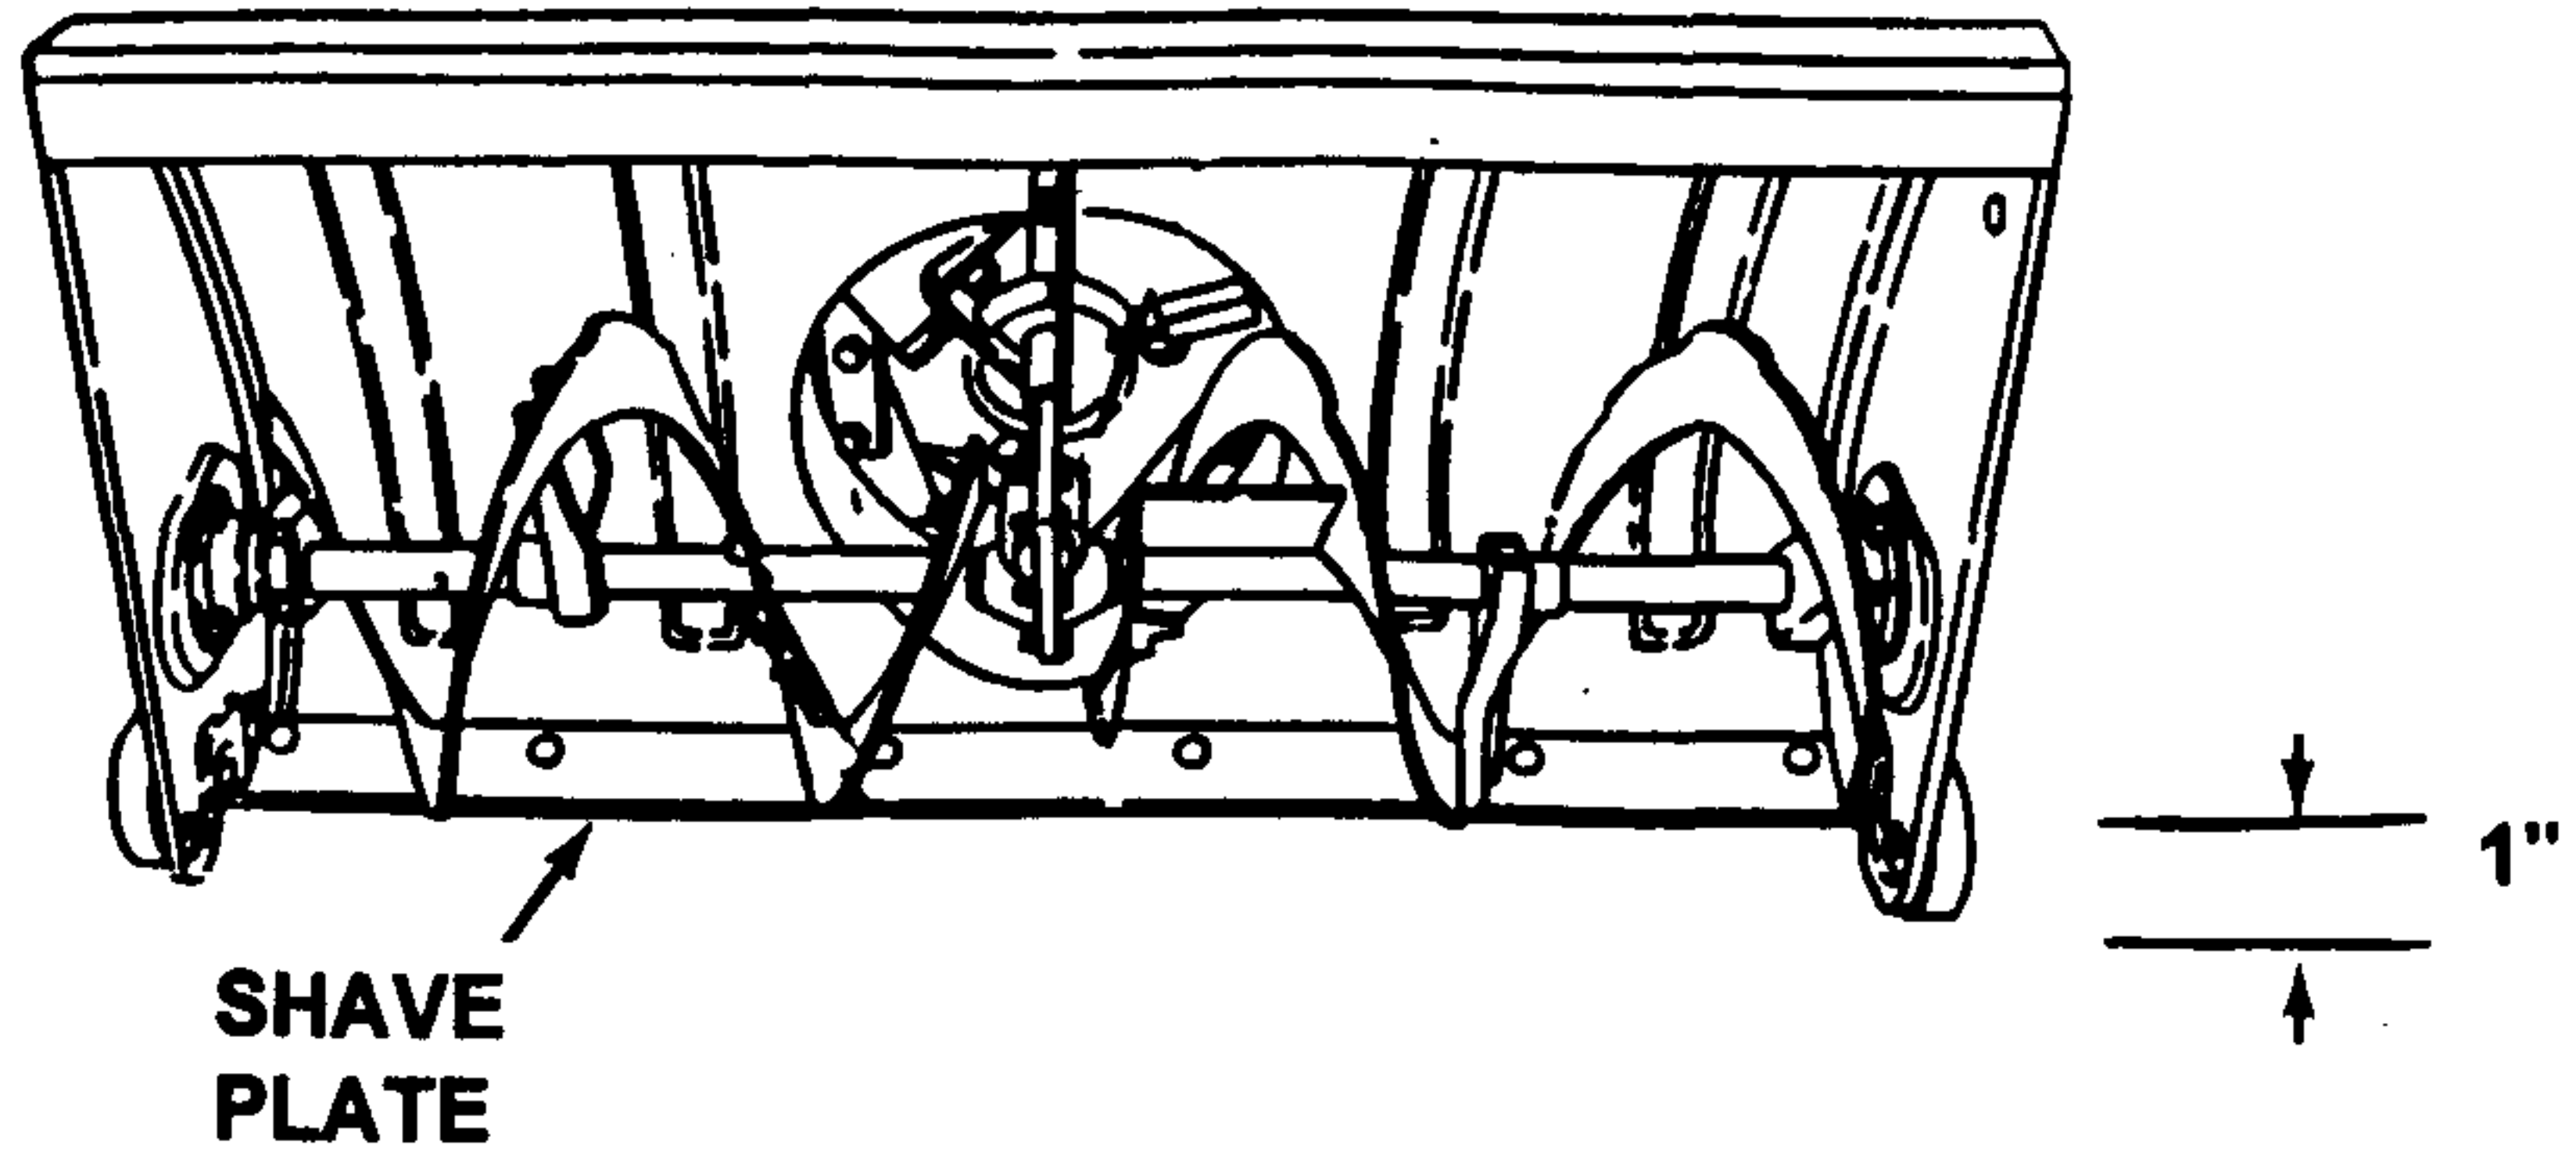

FIGURE 1
3. Lower the blower to its lowest position. Measure the distance between the shave plate and the floor. If the distance is less than one inch or the shave plate is on the floor, go to step 4. Refer to the figure 1 illustration on back of this bulletin.